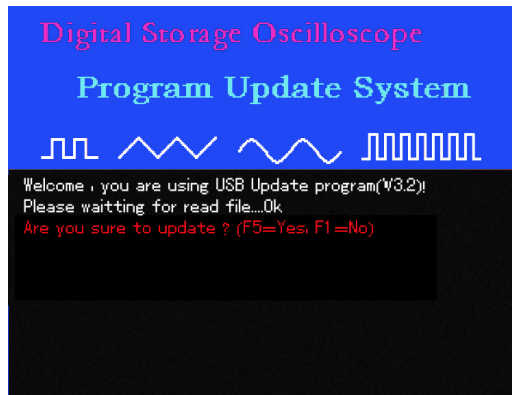
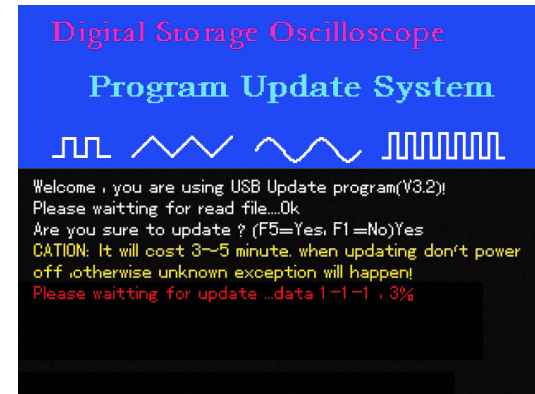

Figure 5-3
Figure 5-4
4. The upgrade system will determine whether the upgrade document meets upgrade criteria. When done, the interface shown in Figure 5-3 appears to prompt: "Are you sure to update?"
5. On the screen shown in Figure 5-3, press [F5] to confirm you require to upgrade the program. The screen shown in Figure 5-4 will appear with the following prompt : “CAUTION : It will cost 3-5 minute. When updating don’t power off, otherwise unknown exception will happen! Please waiting for update ...data ...%”